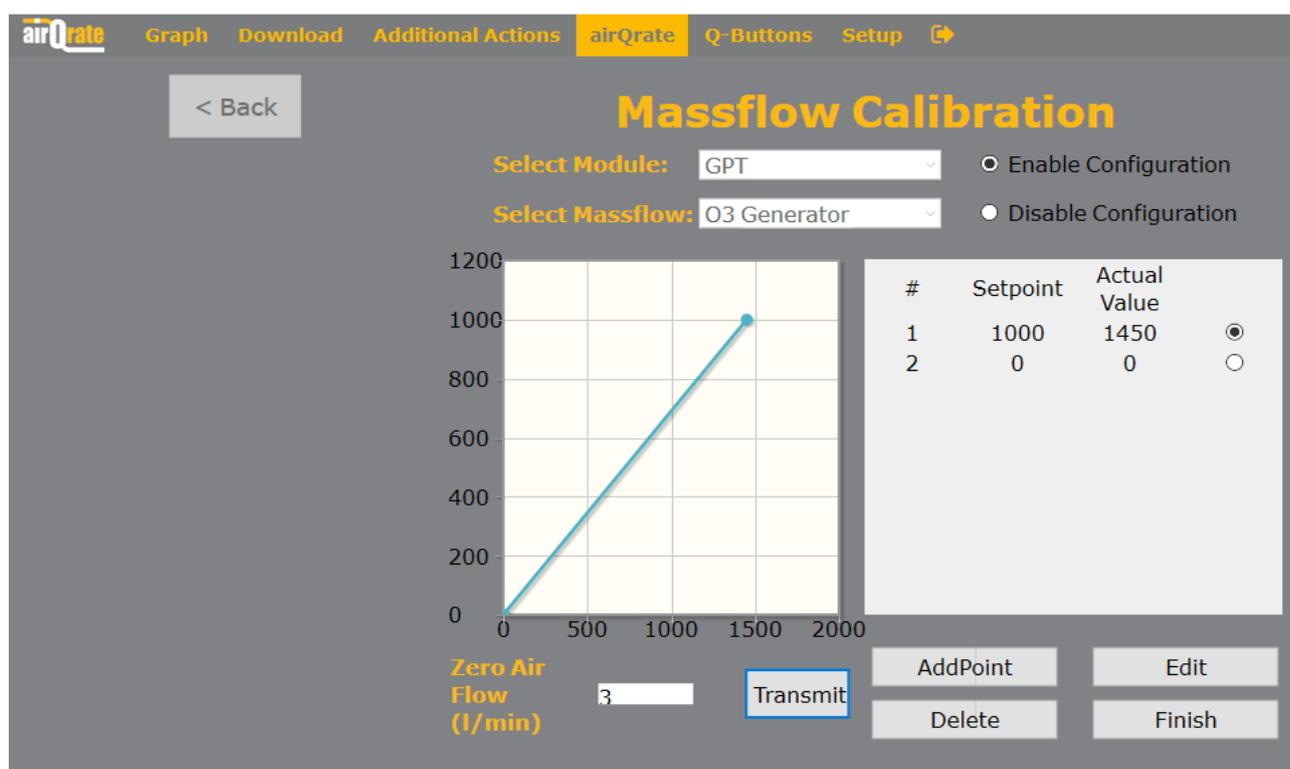

Figure 38: Recalibrating the ozone generator
5. Under Zero Air Flow, set an adequate high flow rate and confirm with <Transmit> (Figure 38). The internal photometer already has a flow rate of approx. 1 L/min, which must be subtracted from the total flow.